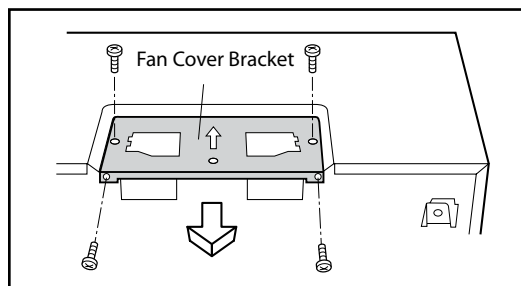

Figure 7
1. Remove and save the 4 screws from Fan Cover Bracket. Remove Fan Cover Bracket by sliding it in the opposite direction of the arrow on the Fan Cover Bracket, as shown in Figure 7.